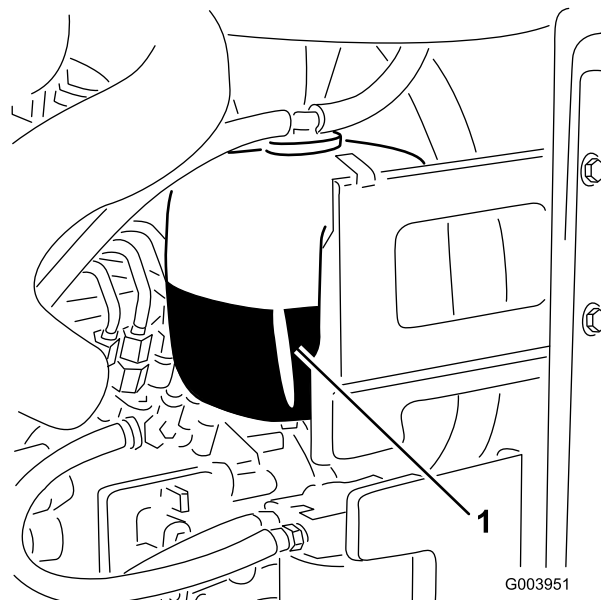

Figure 18
1. Check the level of coolant in the expansion tank (Figure 18).